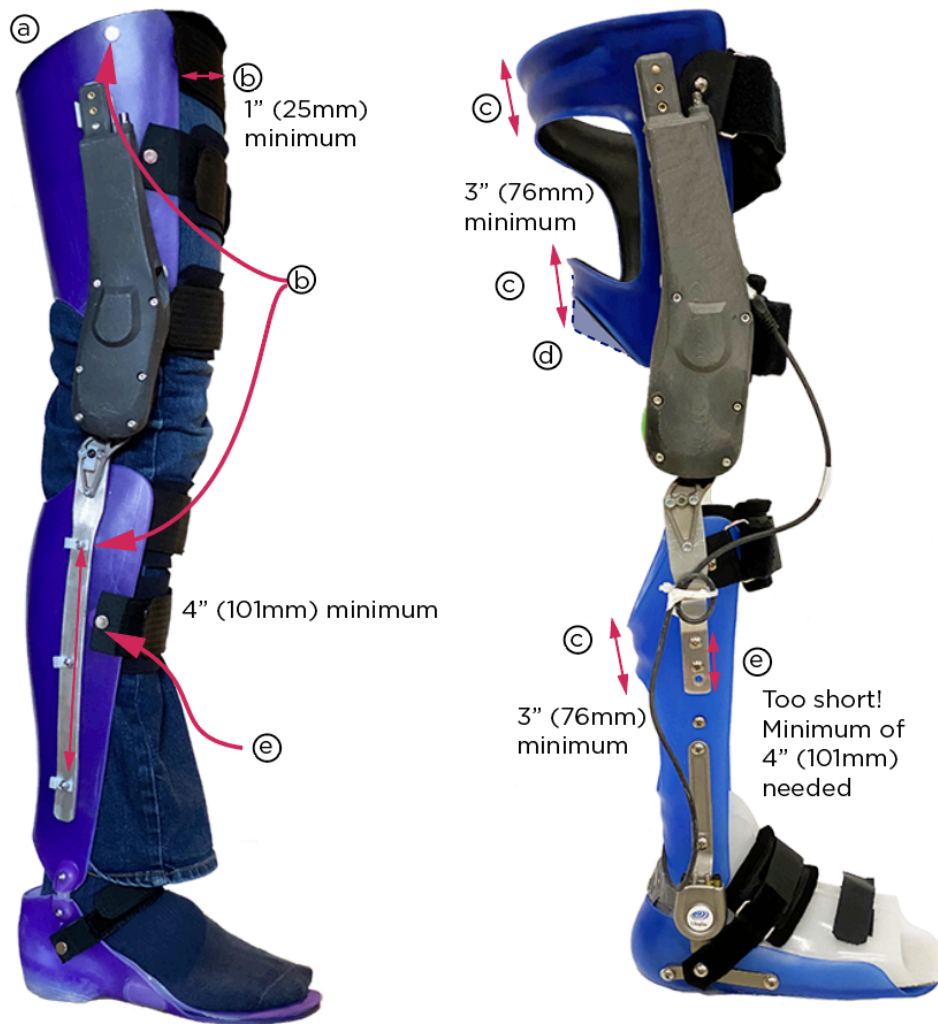

Figure 2 KAFO Requirements
KAFO Shells to be constructed per usual orthotic methods with certain requirements listed below. See also Figure 2 KAFO Requirements to see relevant location for each letter.
- e. Bolts at either end of the Aluminum Upright must be a minimum of 4" (101mm) apart. For the smallest KAFO's, it may be necessary to bend the aluminum upright over the ankle joint's upright and fasten them both through the shell. Figure 2 KAFO Requirements shows a sample KAFO with bolts that are too close together.